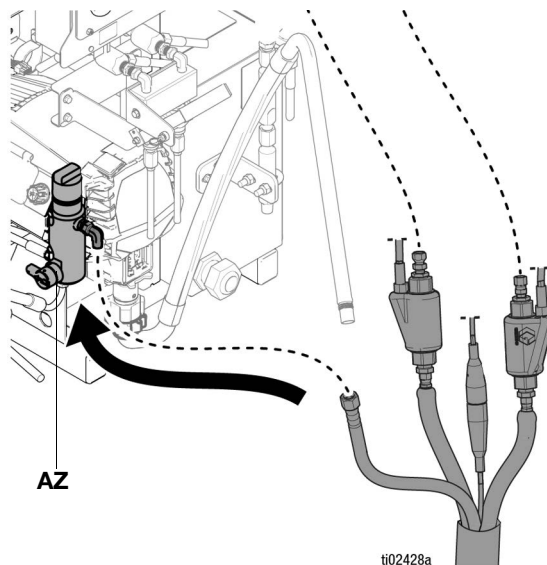

FIG. 4: Connect Solvent Hose to Solvent Pump
3. Connect the Heated Hose Power Connection (K) to the Control Module (A) connectors.
4. Connect the FTS Communication Cable (C) from the Control Module to the Communication Cable (AD) in the hose bundle.
5. Connect the Solvent Hose (S) from the hose bundle to the outlet of the solvent pump (AZ). See FIG. 4.